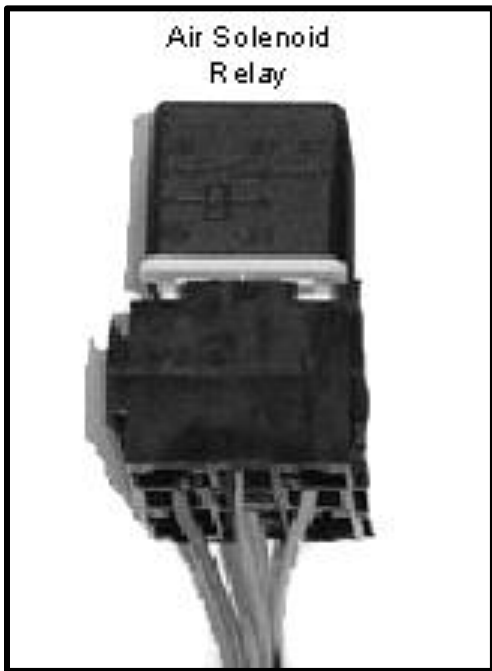

FIGURE 6.4 Air Pump Relay
- B. **AIR RELAY (not equipped on all models)** - The PCM controls the operation of the AIR system through the AIR pump solenoid relay. When the PCM provides a ground circuit for the secondary AIR pump solenoid relay, battery voltage is allowed to power up the AIR pump and the solenoid. **See Figure 6.4**